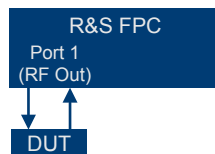

Figure 19-2: Setup of a reflection S11 measurement
1. Connect the DUT to the R&S FPC as shown in Figure 19-2.